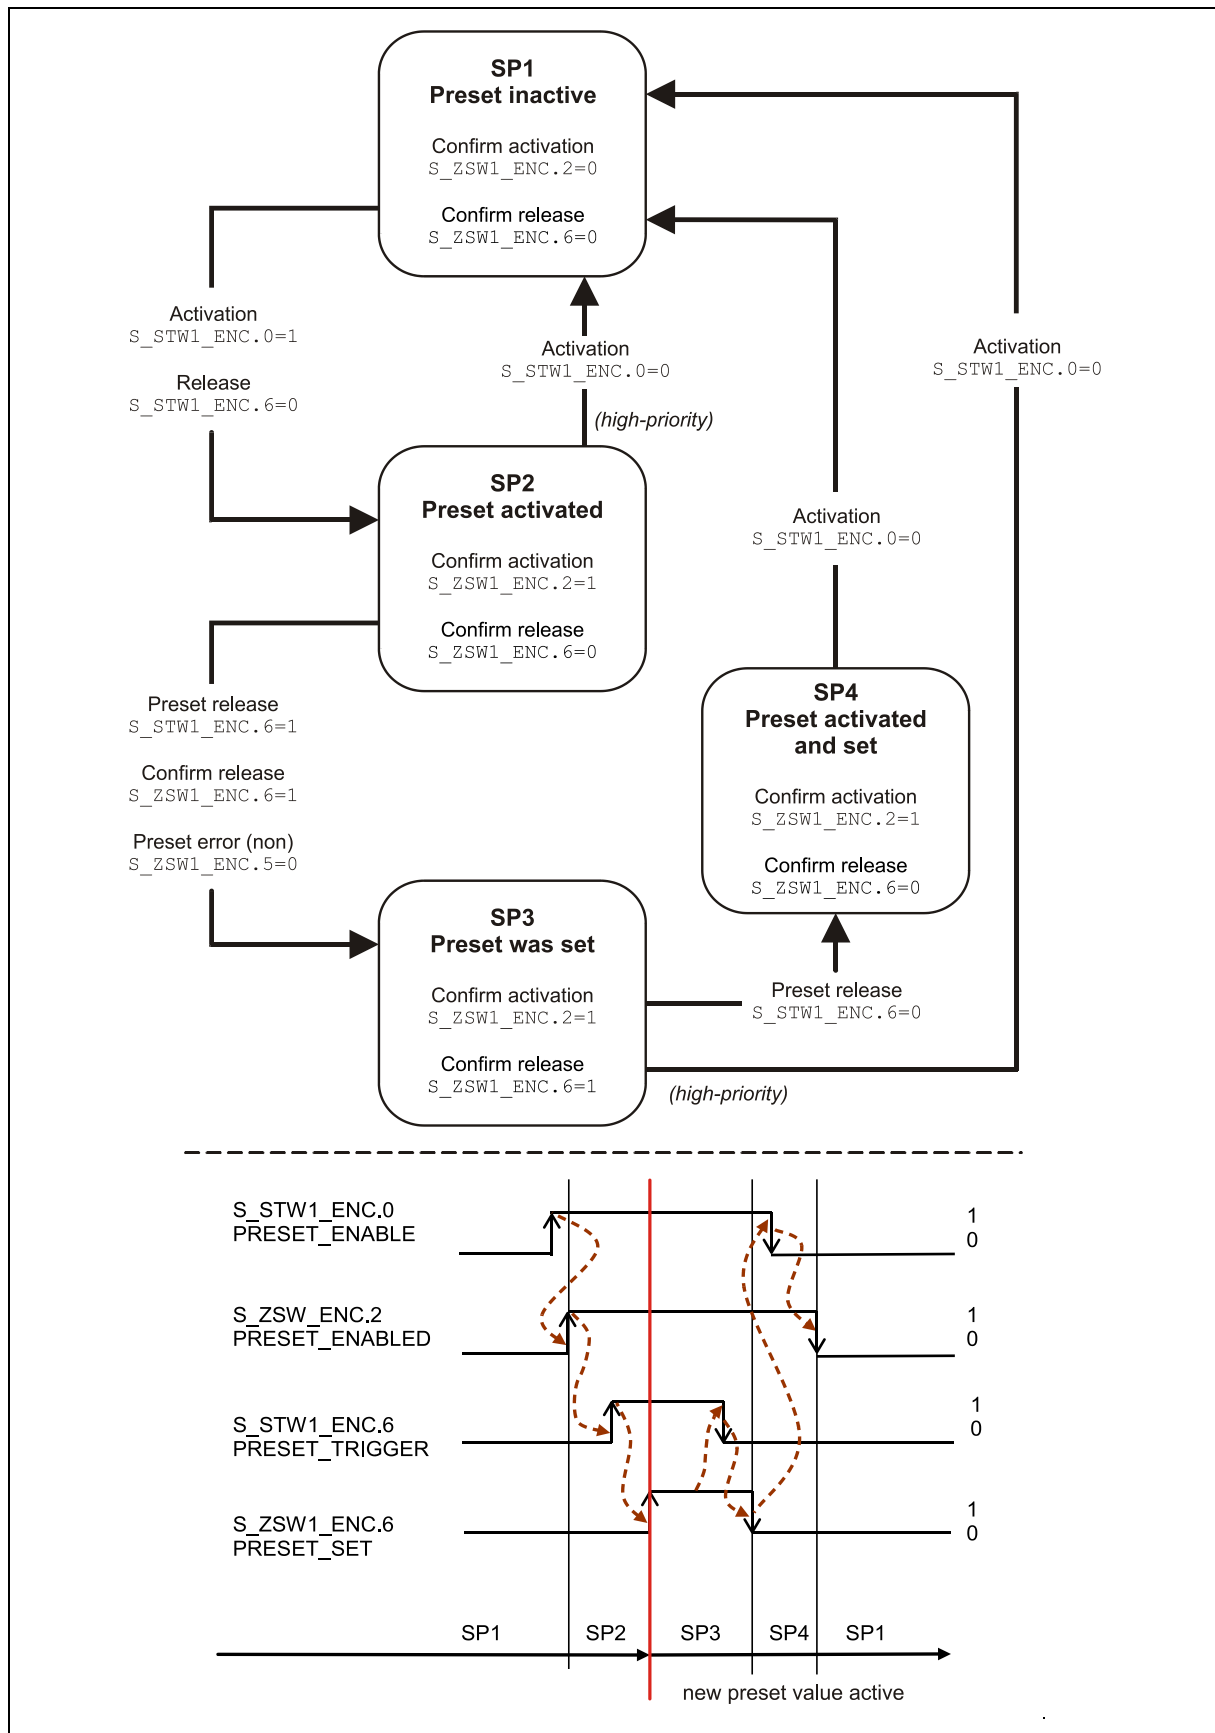

Figure 11: Preset finite state machine / control cycle
- Ensure that the parameter `Preset` affects `S_XIST32` is set to enable, and that the acknowledgment bits `22 Activation of preset function` and `26 Preset triggering` in the status word `S_ZSW1_ENC` are cleared (**SP1**, Figure 11).
- In the control word `S_STW1_ENC`, set bit `20 Activation of preset function` to 1. The activation is acknowledged in the status word `S_ZSW1_ENC` by setting bit `22` (**SP2**, Figure 11).
- The preset value is applied when the edge of bit `26 Preset triggering` rises in the control word `S_STW1_ENC`. The measuring system then checks whether all prerequisites for execution of the preset adjustment function are fulfilled. If yes, the preset value is written as a new actual position value and acknowledged in the status word `S_ZSW1_ENC` by setting bit `26 Acknowledgment, Preset triggering` (**SP3**, Figure 11). If no, execution is rejected and an error message is output via the status word `S_ZSW1_ENC` by setting bit `25 Preset error`.
- After editing the preset adjustment function, bit `26 Preset triggering` must be reset to 0 in the control word `S_STW1_ENC`. Bit `26 Acknowledgment, Preset triggering` is then automatically reset to 0 in the status word `S_ZSW1_ENC`, indicating that the preset execution has been completed (**SP4**, Figure 11).
- To execute a new preset control cycle, bit `20 Activation of preset function` must be reset to 0 in the control word `S_STW1_ENC`. Bit `22 Acknowledgment, Activation of preset function` is then automatically reset to 0 in the status word `S_ZSW1_ENC` (**SP1**, Figure 11).